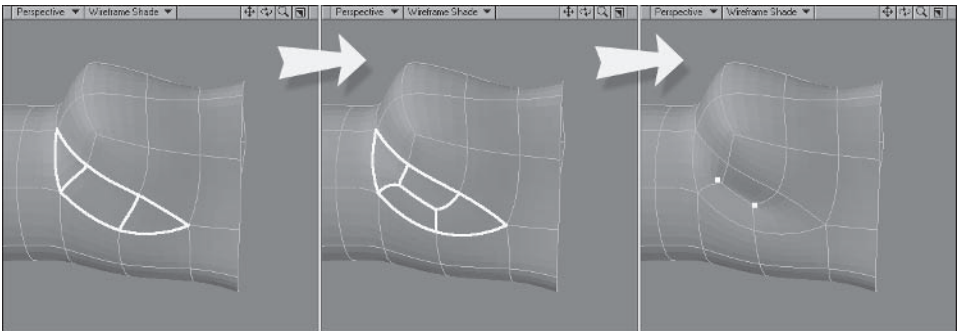

Figure 5.4-34. Creating the crease of the palm.
- 13. Select the three polygons shown in Figure 5.4-34 and select **Cut**, again turning off **Select Outer Edges**. Move the resulting points up a little to create the crease of the palm.